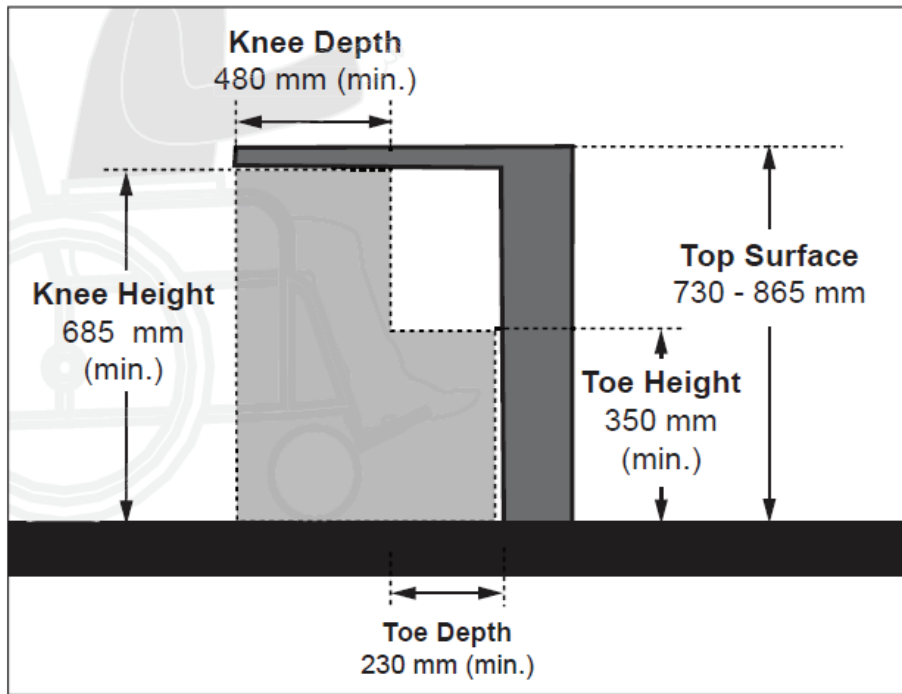

Figure 42: Knee and Toe Clearances at Tables or Work Surfaces – Elevation View
- Ensure there is a 2500 mm clear turning circle plus the width of the door swing (See Figure 42)